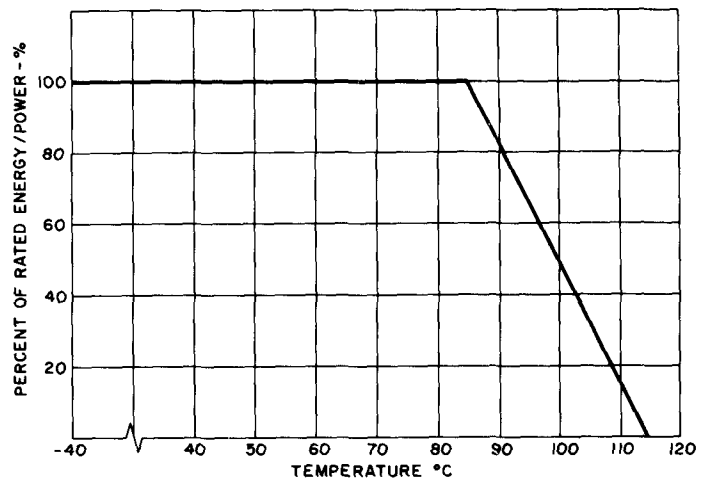

FIGURE 18 POWER AND ENERGY RATING VS. TEMPERATURE
(1) Steady State defined as the normal input conditions existing when no transients are present.
(2) Relative size only (See "Dimensions Table").
(3) Sinusoidal voltage assumed as normal input conditions. If nonsinusoidal wave input is present, peak voltage input values should be used to select model.
(4) See Figure 18, 19, 20.
(5) 1mA standby current based upon 60Hz sinusoidal input.